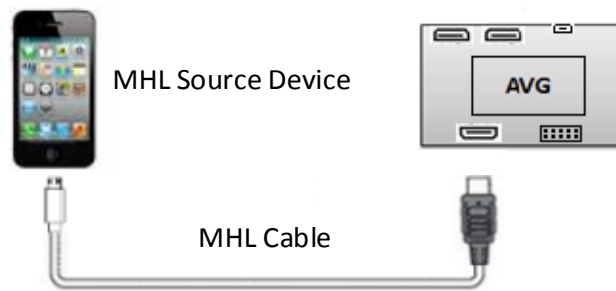

Figure 2.3. Connecting with MHL Source Device in Stand-alone Mode
- When testing with MHL Source device, connect the SL-881 to your MHL source device in the way shown in Figure 2.3.
Or, use the MHL cable to connect MHL source device to the SL-881 HDMI IN port when you test an MHL source device, as shown in Figure 2.3.